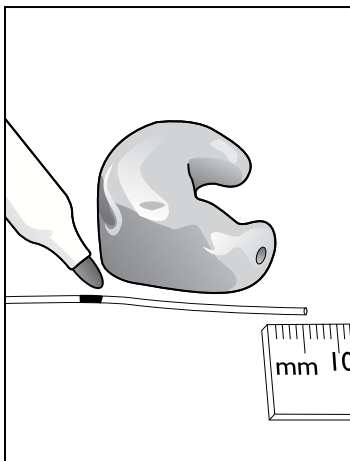

Figure 4.2.4A
1. Place an unattached probe tube on a flat surface along with the client's earmold or shell as shown in Figure 4.2.4A so that the tube rests along the bottom of the canal part of the earmold, with the tube extending at least 5 mm past the canal opening.